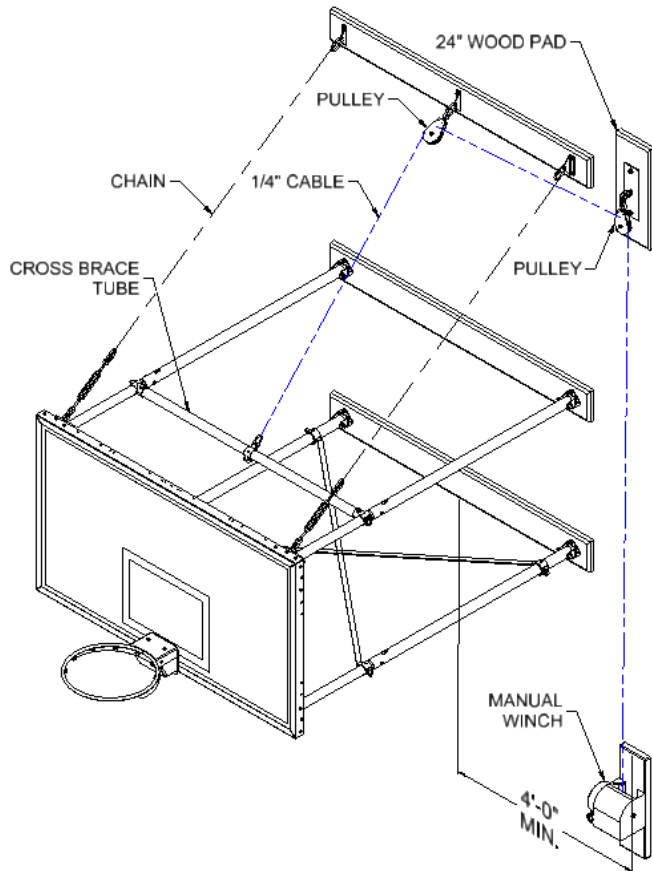

Figure 7 Manual winch location.
- 17) For a **Manual Winch**, the second pulley should be installed to a minimum of 4 ft to one side or the other of the unit, in line with the first pulley. Attach the provided bracket to the 24" wood pad and mount to the wall vertically (as shown in Figure 7). Utilize a 5/16" quick link to connect the pulley to the bracket.